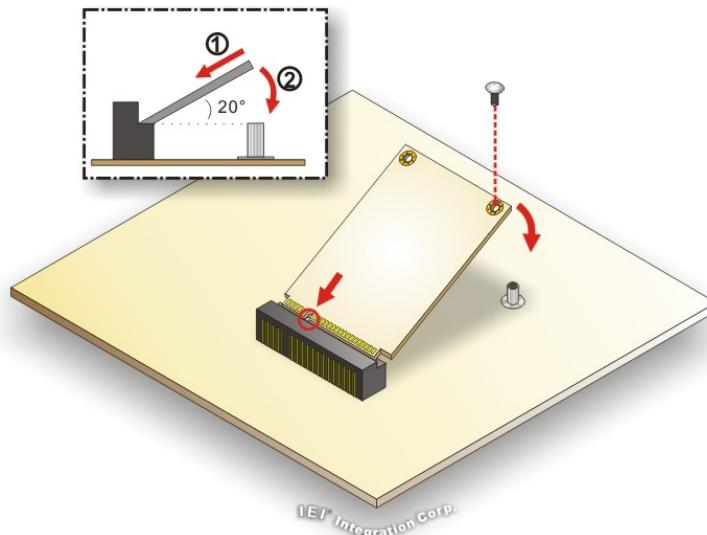

Figure 3-5: mSATA Module Installation
PPC-F06B-BT. **Figure 3-5** shows that the system is installed with a high-profile SATA DOM.
Step 4: Secure the mSATA module with the retention screw. Push the other end of the mSATA module down and secure the module with the previously removed retention screw (**Figure 3-5**).